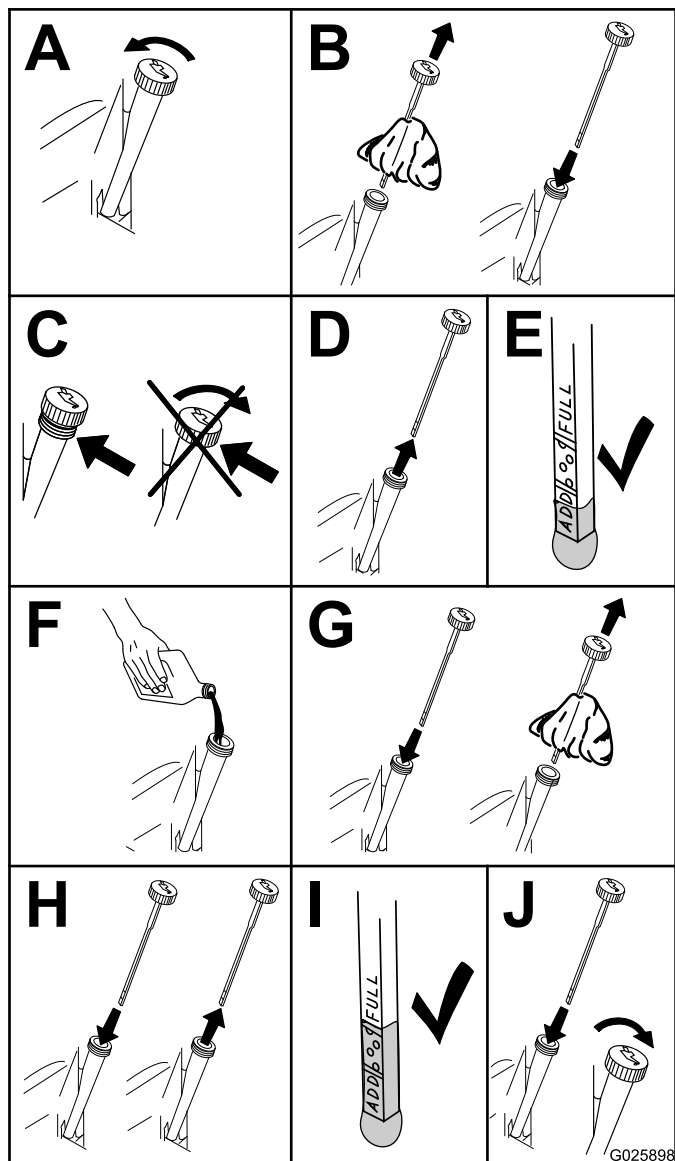

Figure 13
3. Check the engine-oil level as shown in Figure 13.